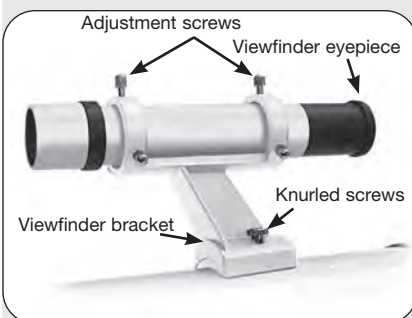

Fig. 9: Attaching the viewfinder bracket to the optical tube.
9. Attaching the viewfinder (Fig. 9): The viewfinder is already included in the package with pre-mounted bracket. Remove the thumbscrews from the optical tube and set aside. Place the viewfinder bracket on the two set screws and screw the thumbscrews back on.